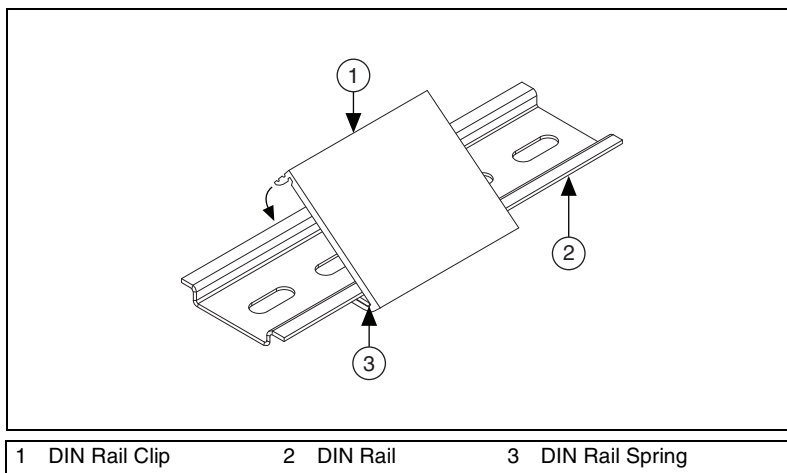

Figure 10. One Edge of the DIN Rail Inserted in a Clip
2. Insert one edge of the DIN rail into the deeper opening of the DIN rail clip, as shown in Figure 10.